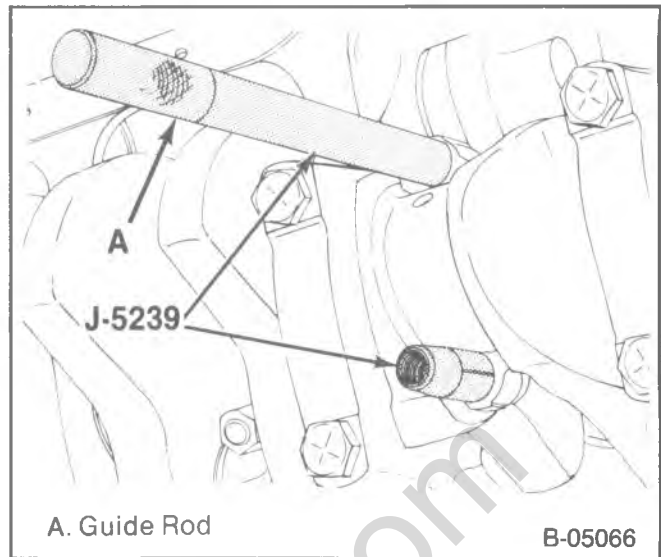

Figure 30—Replacing the Connecting Rod and Piston
↔ Remove or Disconnect (Figure 30)
- Attach J-5239 to the connecting rod bolts (figure 30).
Install or Connect (Figures 30 through 34)
- With the connecting rod cap removed, install J-5239 onto the connecting rod studs (figure 30).
- Place the piston in its matching bore. Using light blows with a hammer handle, tap the piston down into its bore (figure 33). At the same time, from beneath the vehicle guide the connecting rod to the crankpin with J-5239 (figure 30). Hold the ring compressor against the block until all rings have entered the cylinder bore.